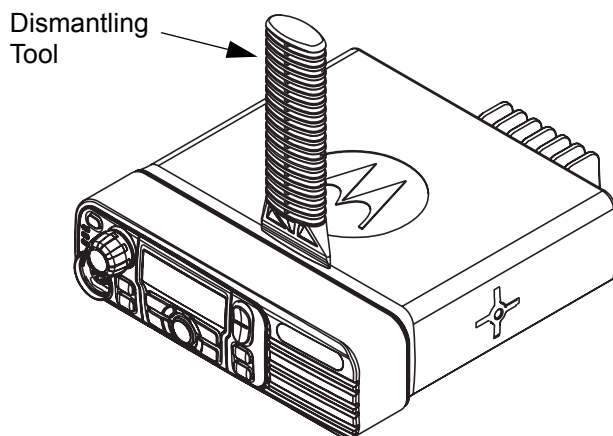

Figure 5-1 Typical Control Head Removal
1. Insert the dismantling tool in the groove between the control head and the radio assembly as shown in Figure 5-1.